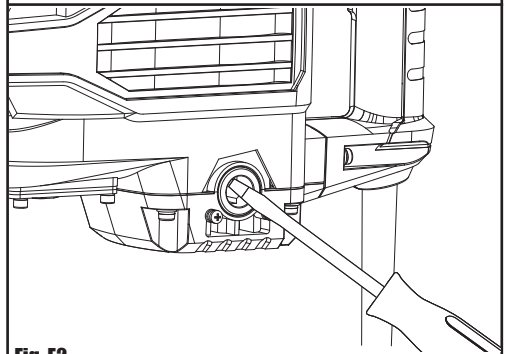

Fig. E2
- 2) Remove the outer brush cover and unscrew the inner brush cover with a flat screwdriver (not provided). (See Fig. E2)